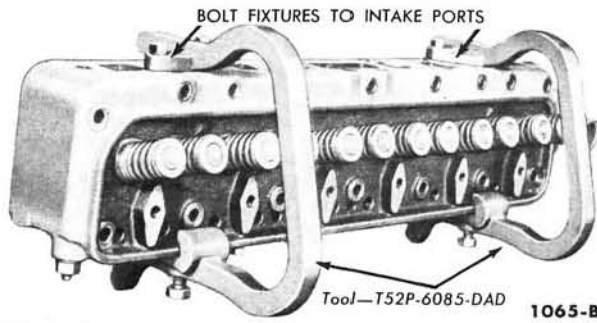
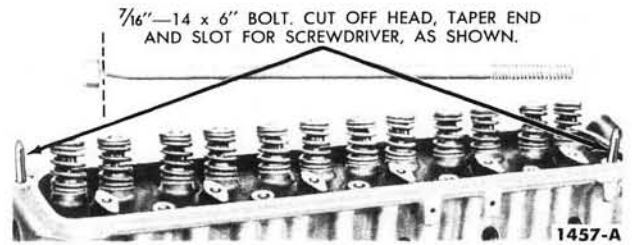

FIG. 14—Cylinder Head Holding Fixture
FIG. 15—Cylinder Head Guide Studs
4. Remove the manifold to cylinder head bolts, and pull the manifold assembly away from the cylinder head. Brace the assembly so the inlet pipe will not be damaged. Install the cylinder head holding fixtures for convenience in lifting the head and to protect the gasket surfaces (Fig. 14). Remove all cylinder head bolts. Install the cylinder head guide studs (Fig. 15). Lift the cylinder head assembly off the engine. **Do not pry between the head and block as the gasket surfaces may become damaged.**